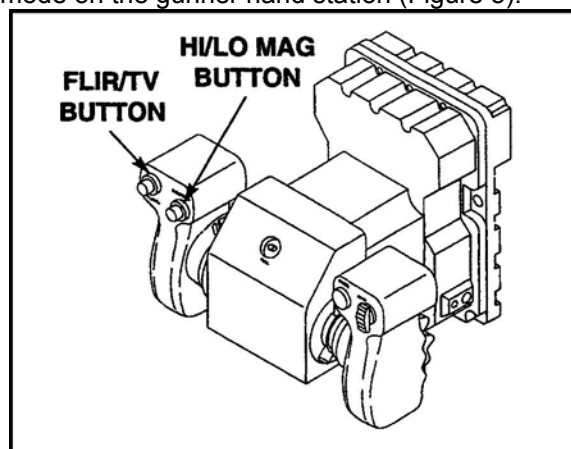

Figure 5. FLIR/TV button.
- (1) Select FLIR mode on the gunner hand station (Figure 5).